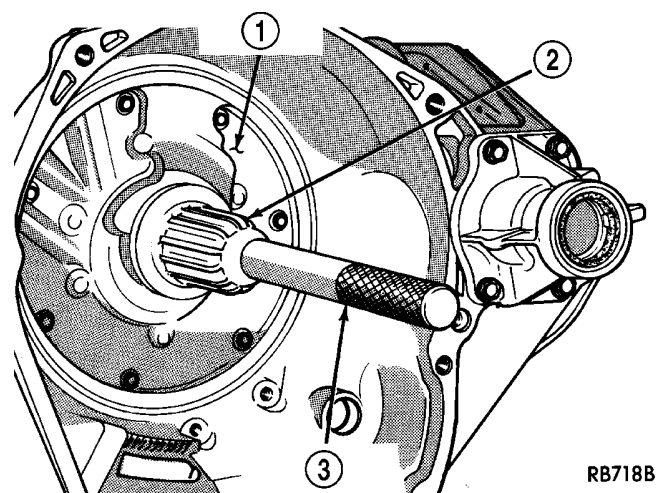

Fig. 15 Install Pump Oil Seal
(1) To install a new seal, place seal in opening of the pump housing (lip side facing inward). Using Tool C-4193 and Handle Tool C-4171, drive new seal into housing until tool bottoms (Fig. 15).